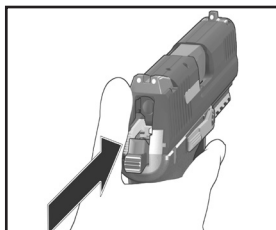

Figure 11
Only for P30 models with a decocking lever (Figure 11).
11. Press decocking lever (Figure 11).